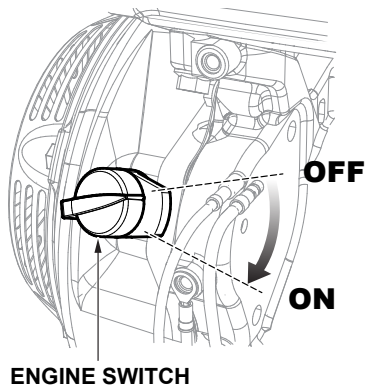

Figure 28. Engine ON/OFF Switch (ON)
- Place the engine ON/OFF switch in the **ON** position (Figure 28).